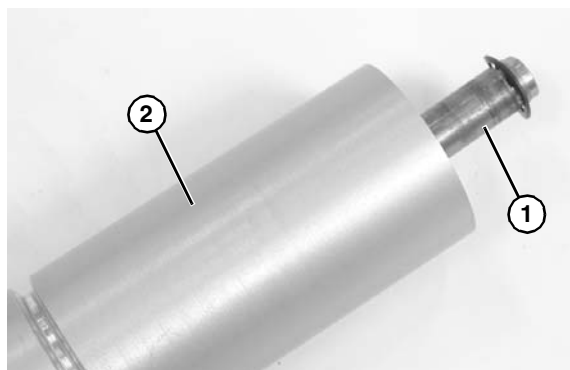

Figure 35
7. Slide the shaft assembly (Figure 35, item 1) out of the pulley (Figure 35, item 2).